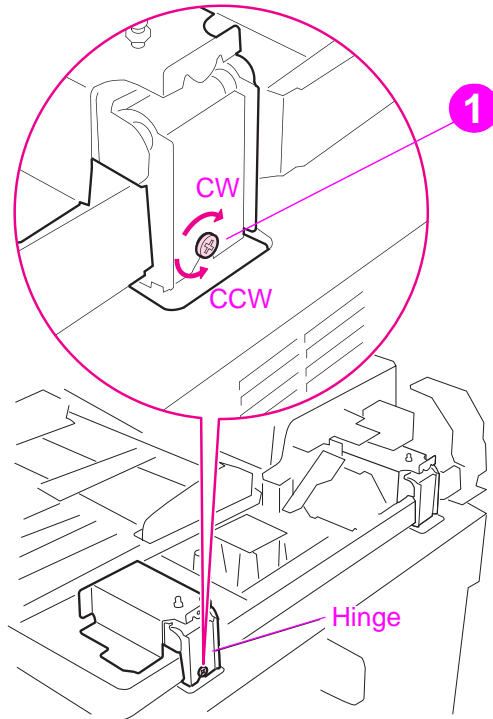

Figure 220. ADF skew adjustment (2 of 3)
- 3 If the distance is not within the ADF skew adjustment specifications, loosen the bracket fixing screw (callout 2 in Figure 220 below) and turn the ADF skew adjusting screw (callout 1). Turn the screw clockwise (CW) to decrease the distance of L1 (increase L2), and counterclockwise to increase the distance of L1 (decrease L2).